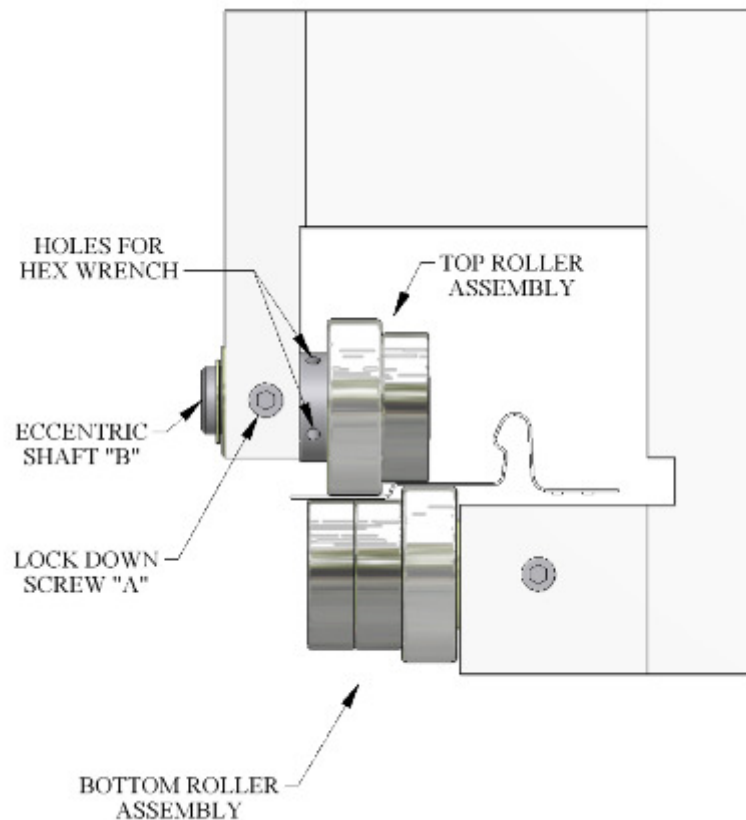

Figure 28: Clip Relief Roller Assembly
1. Clip Relief Rollers (Figure 28) provide a raised area next to the male and female legs of the panel. This helps hide the clip and screws used in installation. They rollers can be engaged or disengaged as needed.